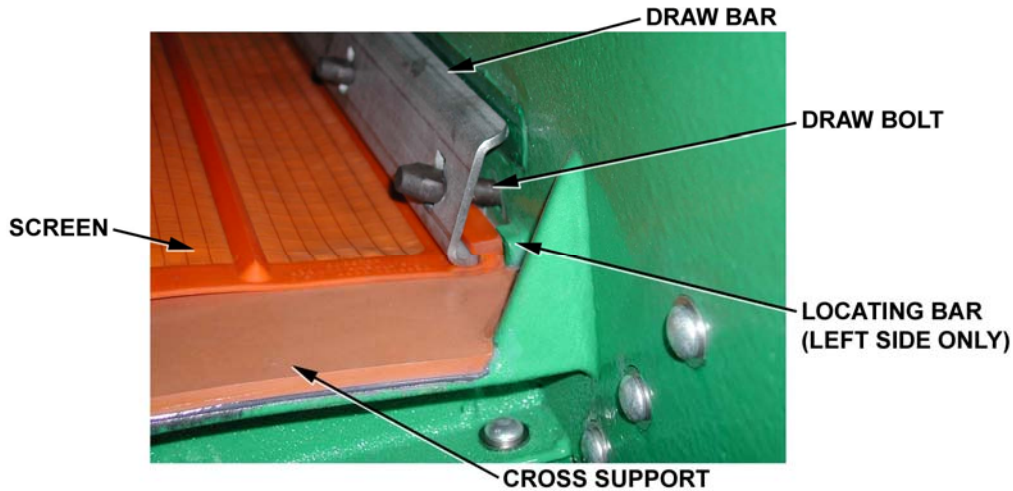

Figure 6-4 Draw Bar Engagement With Hook Strip
2. Place screen panel on bed of screen frame, slide panel into contact with locating bars on left side of screen bed (Figure 6-4), and slide against shoulder of cross support at the feed end of the screen frame.